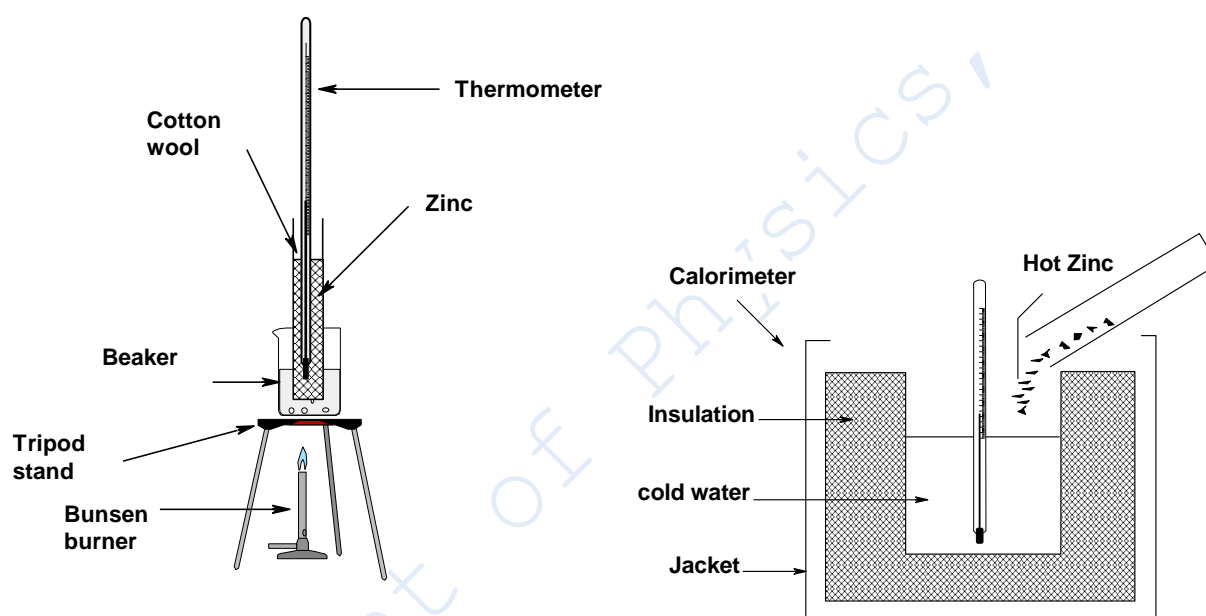

Fig. 9-1
1. Setup the apparatus as shown in Fig. 9-1. Put the thermometer into the boiling tube and put as much zinc as possible around the thermometer. Place some cotton wool on top .